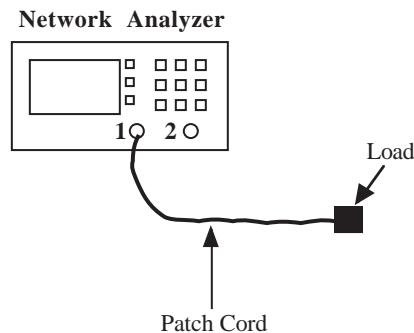

Figure 5-4: Setup for Section 5-6.3
- Connect the patch cord to channel 1 of the network analyzer as shown in Fig. 5-4.